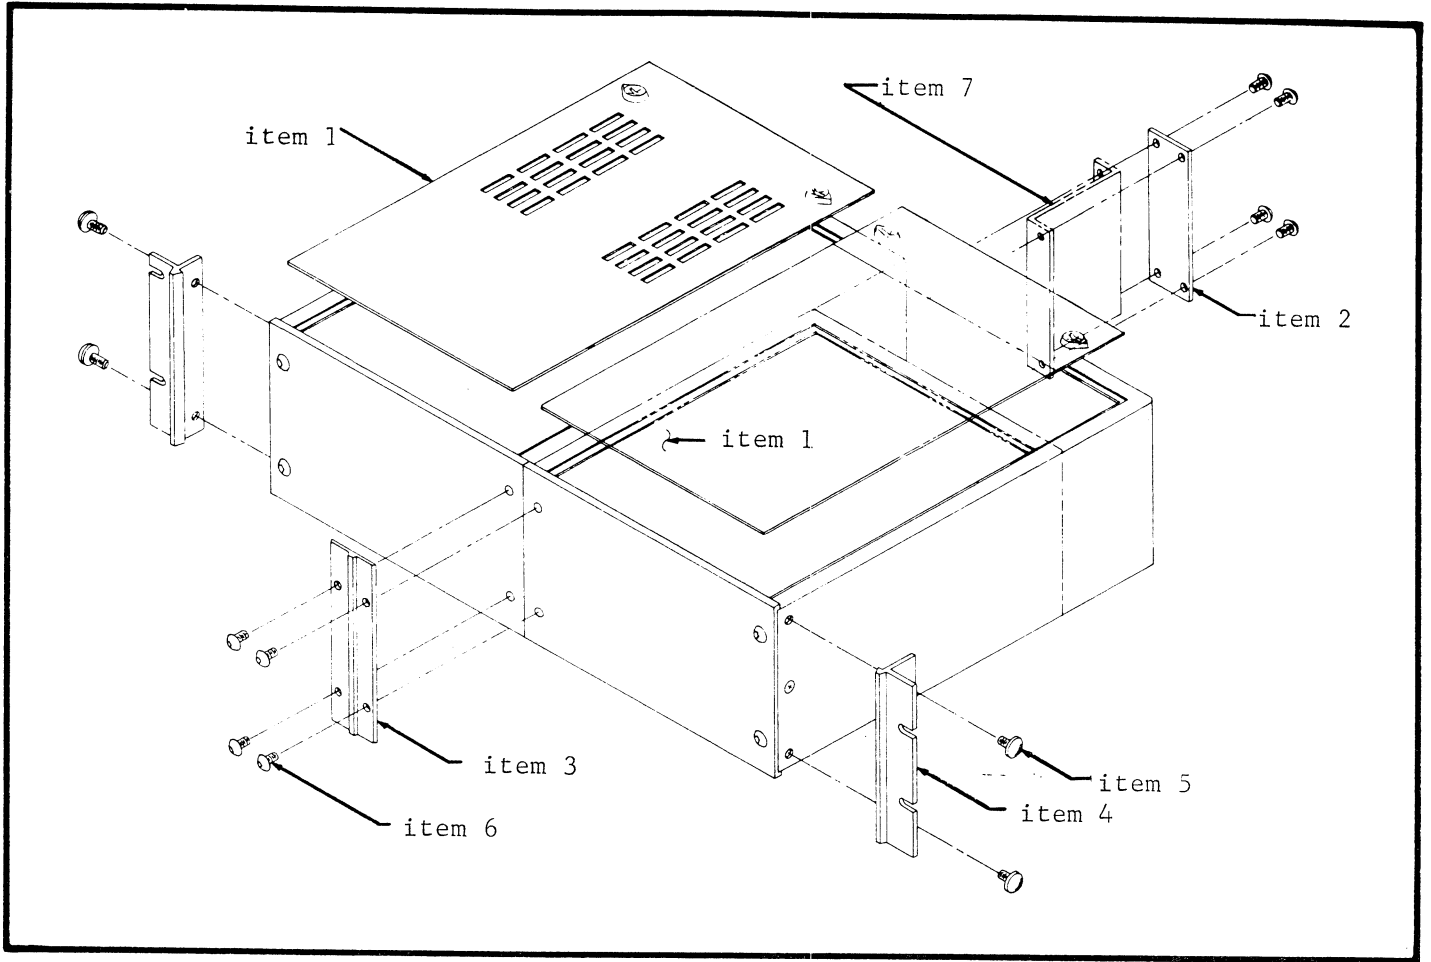

FIGURE 16. Assembly Drawing for Model 4004A Dual Rack Mounting Kit.
b. Procedures. Remove the wrap-around cover on each Source by removing the two corner screws at the bottom of each side. Assemble the rack mounting parts as shown in Figure 16. If rack mounting two 10 inches deep instruments or two 13 inches deep instruments, attach in this order: cover (1), two rack angles (5), chassis connecting plate (2), and chassis connecting plate (3). If rack mounting one each 10-inch deep instrument and 13-inch deep instrument, attach in this order: cover (1), two rack angles (4), chassis connecting plate (3), and zee bracket (7).